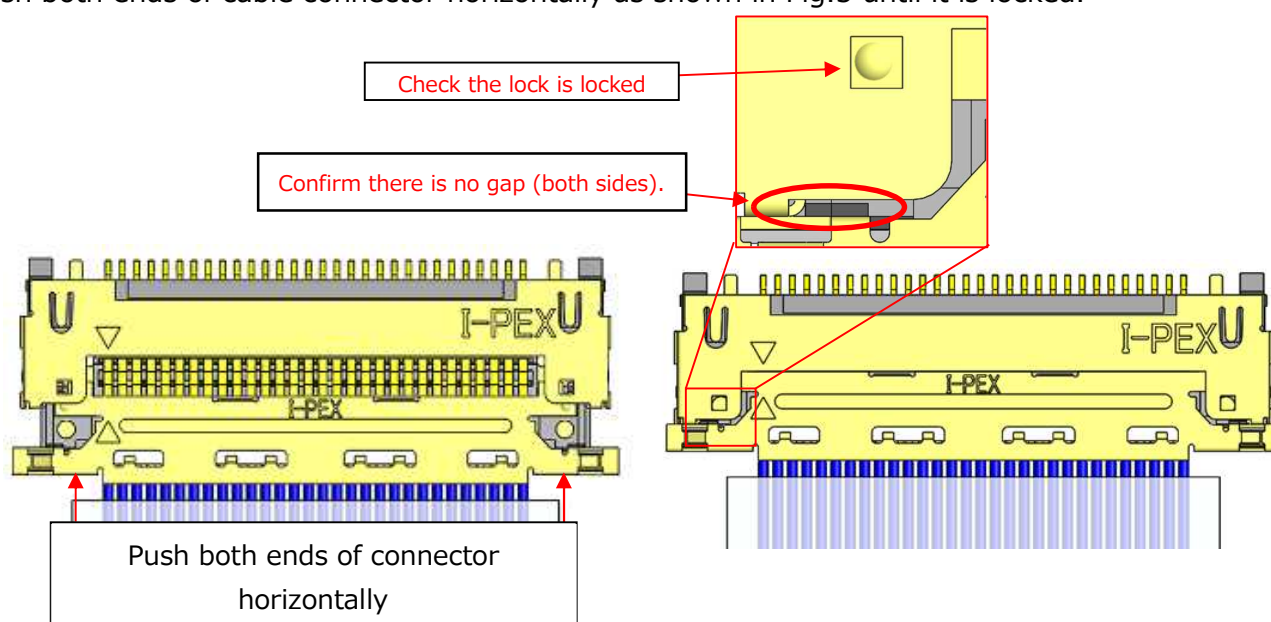

Fig. 5
- ② Push both ends of cable connector horizontally as shown in Fig.5 until it is locked.